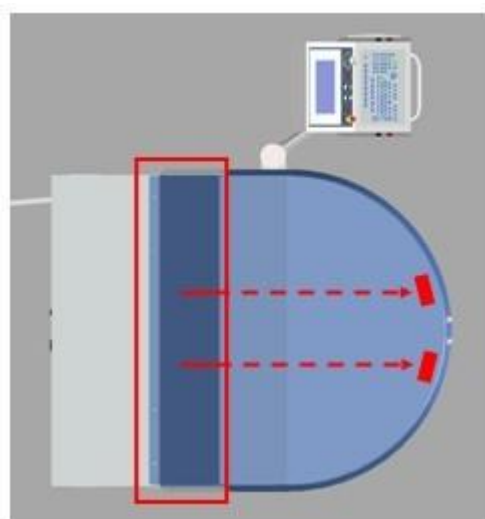

Figure 6 - Manual access points to door interlocks
**TIP:** If manual release of the Chamber Door Interlocks is required, the upper enclosure cover (see Figure 6 - Manual access points to door interlocks) can be removed. A Torx #8 tool with extension can then be passed above the chamber lamp to manually unlock the door interlocks.